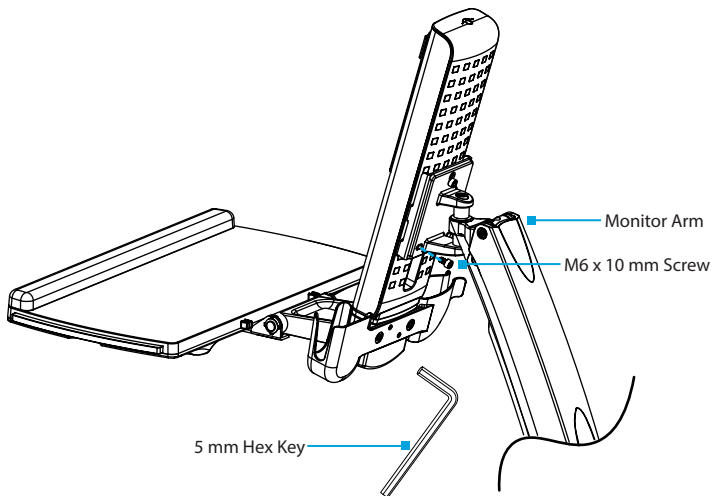

Figure 6
3. Insert the second and third **M6 x 10 mm Screws** into the holes, located on the **Plate** on the **Monitor Arm** and tighten, using the **5 mm Hex Key**. (Figure 6)